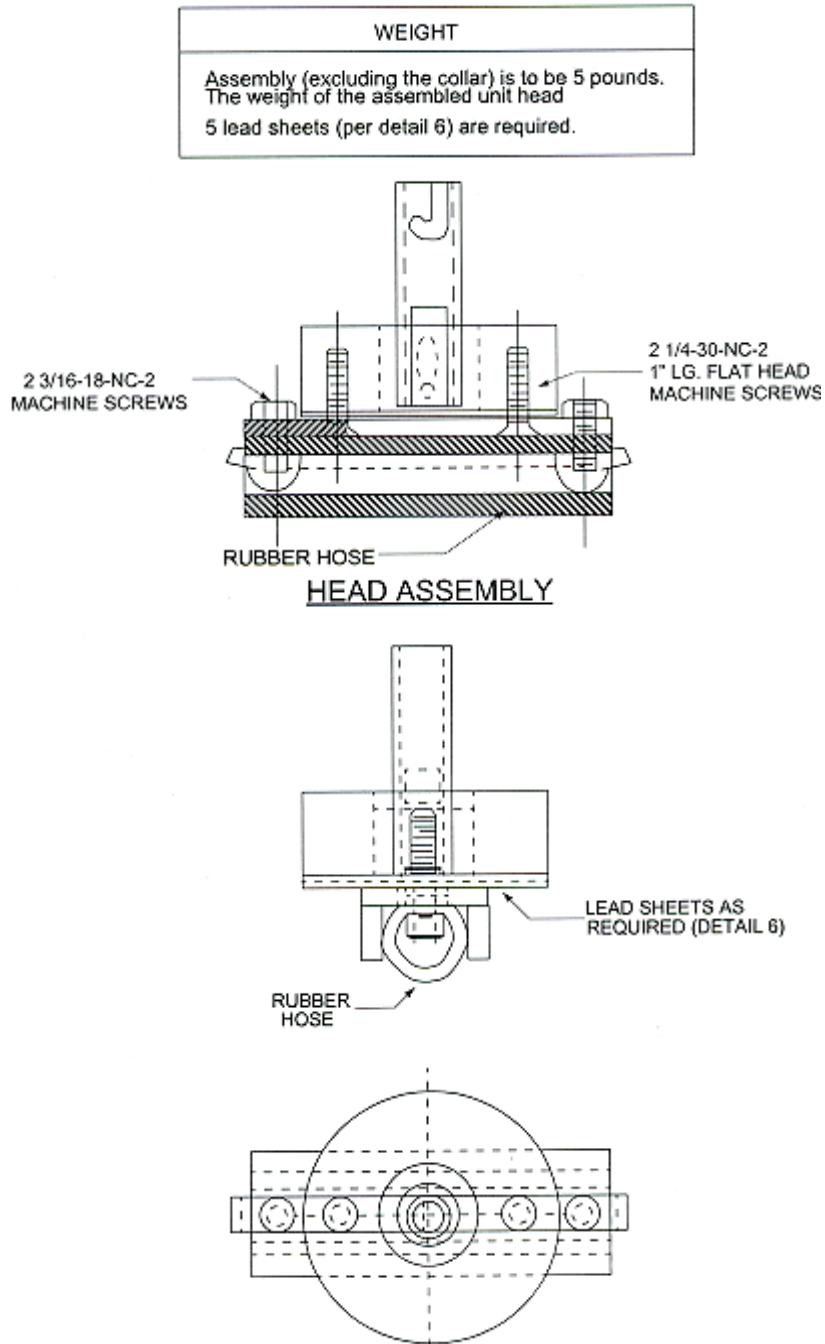

Figure 43-1
11. Abrasion Head: Use a 5.0 lbs (2.3 kg) weighted rubber hose holding device with approximately 0.5 in (13 mm) free up and down movement in the shaft sleeve (see Figure 43-1).
12. Rubber Hose: Use a rubber hose with a 0.75 in (19 mm) inside diameter and approximately a 0.25 in (13 mm) wall thickness. Cut the hose into 5 in (13 mm) lengths and drill with two 0.375 in (9.5 mm) holes aligned on 4 in (100 mm) centers (see Figure 43-1).